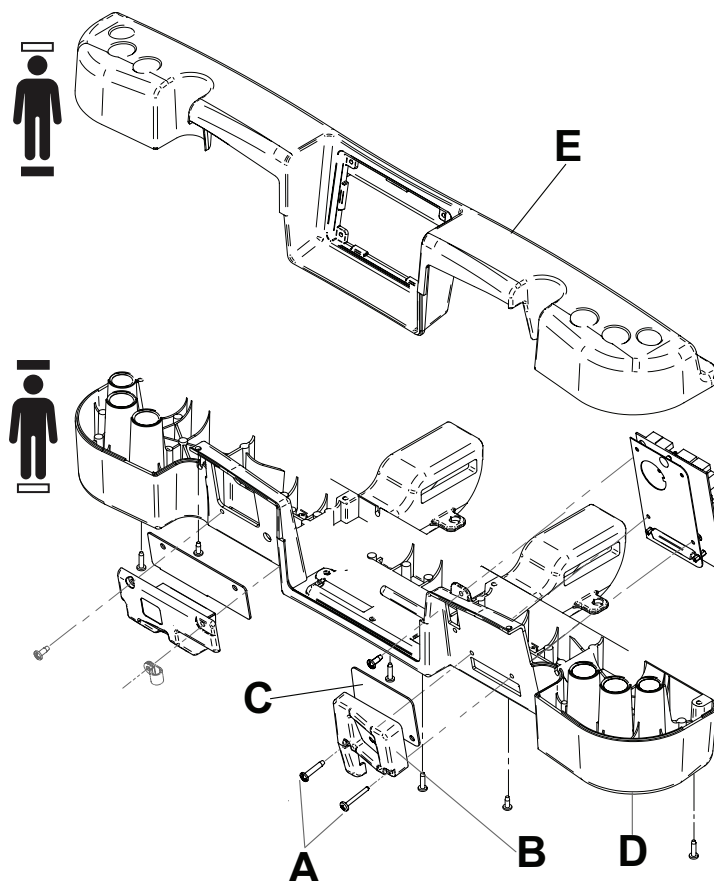

Figure 77 – IR module
11. Using a #2 Phillips screwdriver, remove the two screws (A) that secure the right IR module (B) and gasket (C) to the head end frame (D) (Figure 77). Save the screws.